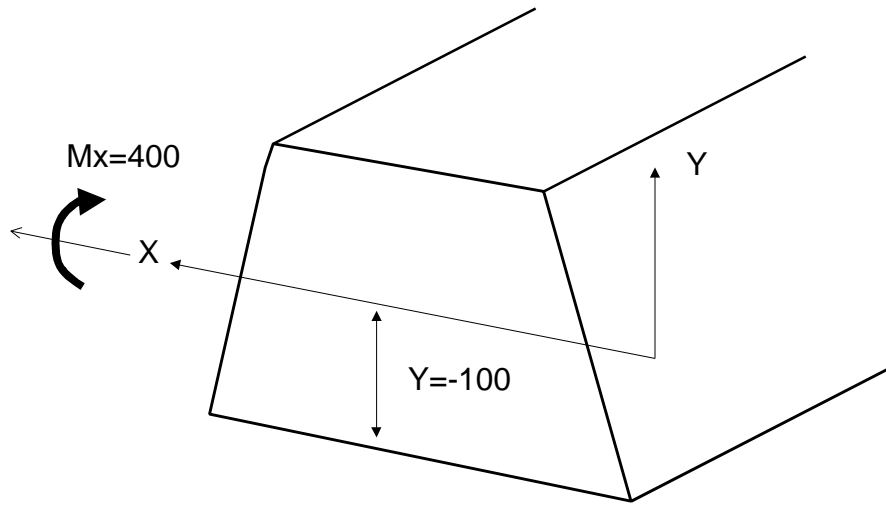

Figure 1
Sometimes it is required to apply a bending moment on a cross-section. Here we assume the bending moment we want to apply is a linear distribution of either pressure, nodal force, or displacement, etc. See Figure 1. This document tells you how to apply such bending moments. For torque that varies linearly along the radius from the axis, the procedure is similar.
Assume that we want to apply a bending moment of 400 around the X-axis, on the nodes of X-Y plan, as Figure 1. Following the step-by-step procedures below to implement the bending moment on the model
1. Make sure your active coordinate (CSYS) is on the place you want. Like Figure 1.